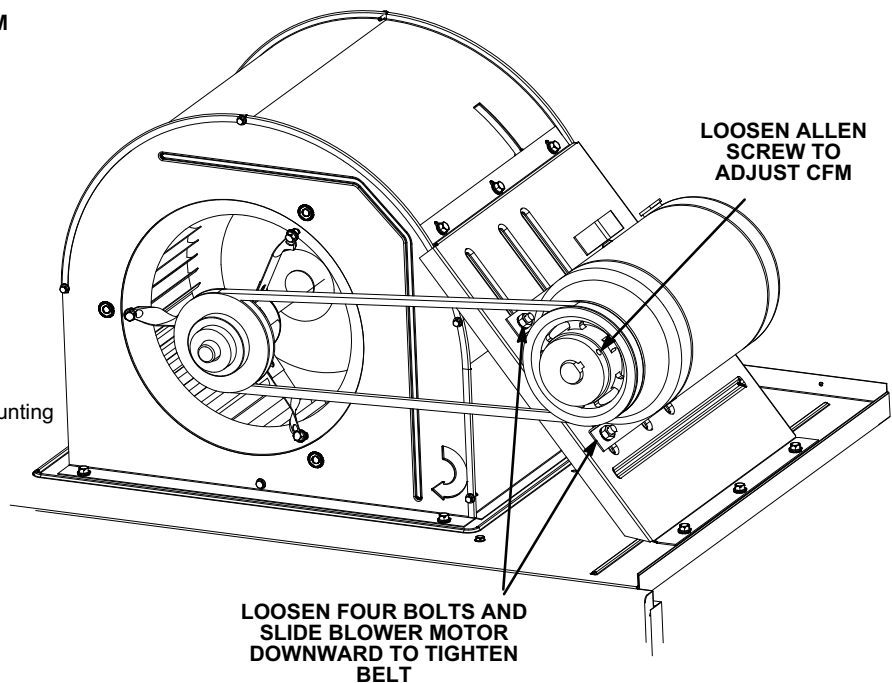

FIGURE 10
- 5- The blower RPM can be adjusted at the motor pulley. Loosen Allen screw and turn adjustable pulley clockwise to increase CFM. Turn counterclockwise to decrease CFM. See figure 10 Do not exceed minimum and maximum number of pulley turns as shown in table 2.
- 1- Loosen four bolts securing motor base to mounting frame. See figure 10.